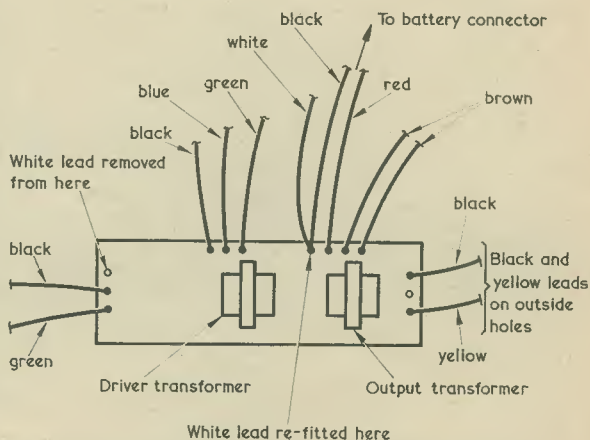

Fig. 5. The connections to the Eagle EG2004 amplifier after it has been prepared for installation in the reverberation unit
11. Take the Eagle EG2004 amplifier board and modify it in the following manner. First, transfer the yellow output lead to the 8Ω connection so that both yellow and black output leads are at the outside holes at the output end of the amplifier board, and are soldered to the adjacent sections of the copper print. Remove the white auxiliary input lead and re-connect it at the same circuit point as the black battery lead. The EG2004 amplifier leads should now be as shown in Fig. 5.